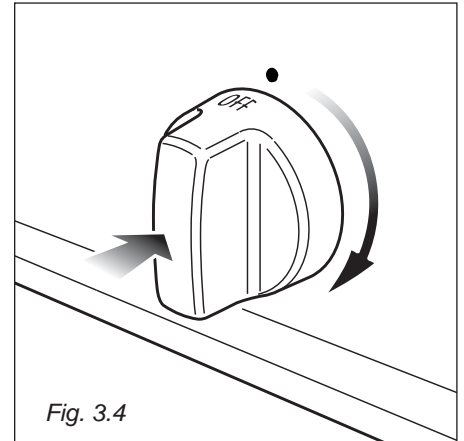

Fig. 3.4
2) Lightly press and turn the thermostat knob clockwise to the **★ BROIL** position (fig. 3.4).